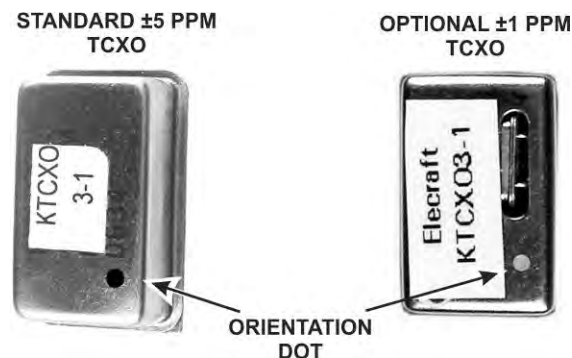

Figure 68. TCXO Modules.
- Locate the Temperature-Compensated Crystal Oscillator (TCXO) module. If you ordered the optional  $\pm 1$  ppm TCXO it will be supplied *instead* of the standard 5 ppm module (see Figure 68).